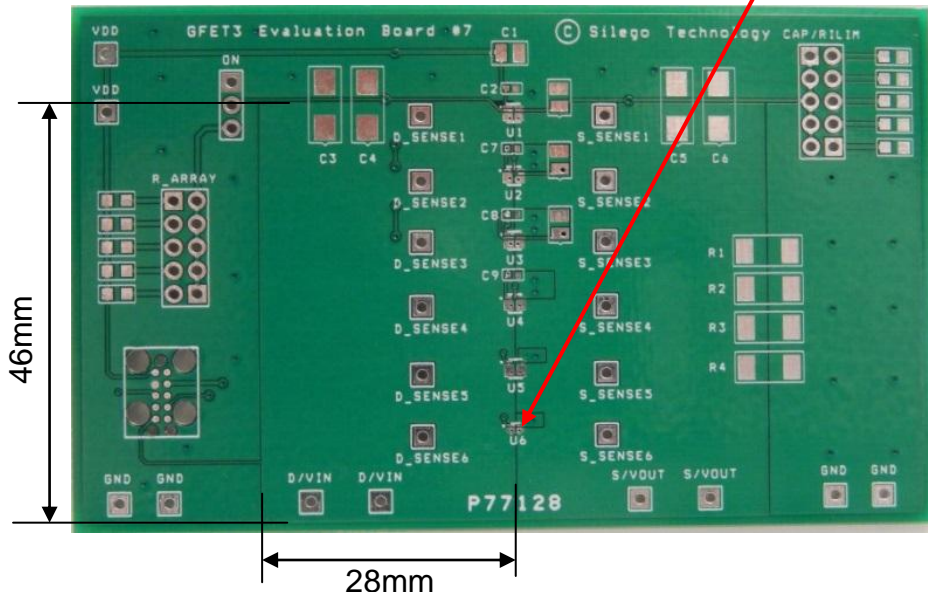

Figure 3. SLG59M1551V Evaluation Test Board
2.2. The D/VIN and S/VOUT pins carry significant current. Please note how the D/VIN and S/VOUT pads are placed directly on the power planes in Figure 3, which minimizes the RDS(ON) associated with long, narrow traces. The D/VIN, S/VOUT and GND pins dissipate most of the heat generated during high-load current condition. The layout shown in Figure 3 is illustrating a proper solution for heat to transfer as efficiently as possible out of the device.